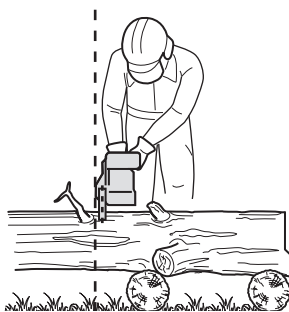

Fig. 20
- > Only use the product with a secure stance. Hold the product to the right-hand side of your body (Fig. 20).